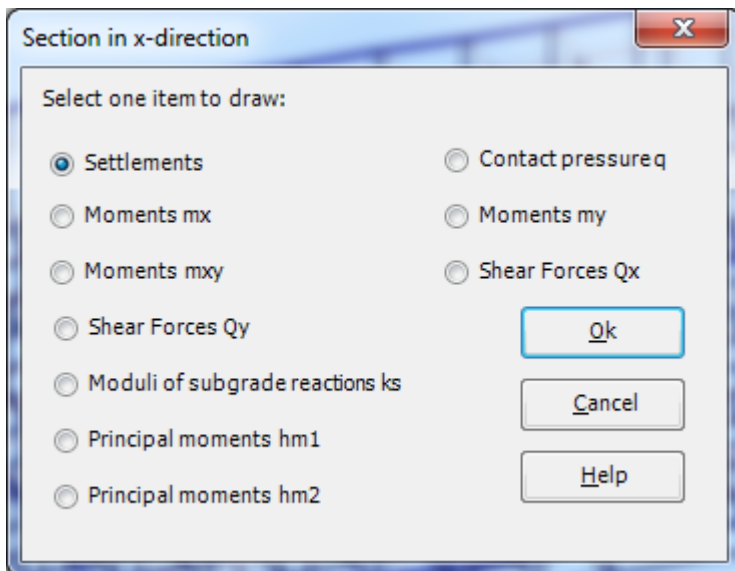

Figure 1.38 "Section in x -direction" option box
- Choose "X-Direction" command from "Section" menu. The following option box in Figure 1.38 appears